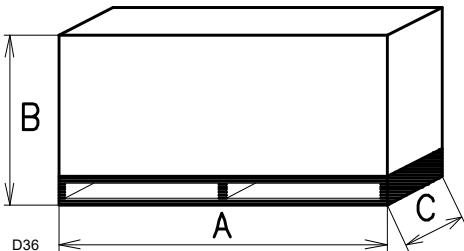

Fig. 1
- The packaging of the burner (Fig. 1) rests on a wooden platform that is particularly suitable for lift trucks. The overall dimensions of the packaging are shown in the table.